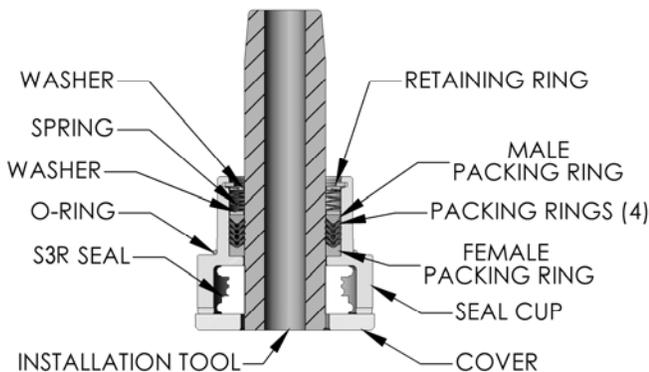

Figure 17a - Seal Cup Assembly
- g. Install the S3R seal in the seal cup as shown in figure 17a. Place the S3R seal on the packing installation tool in the order shown in figure 17b, with the upper segment at the tapered end of the installation tool. Insert the installation tool, with the S3R seal, into the seal cup, with the tapered end toward the packing rings. Place seal cup cover on seal cup and secure with two capscrews